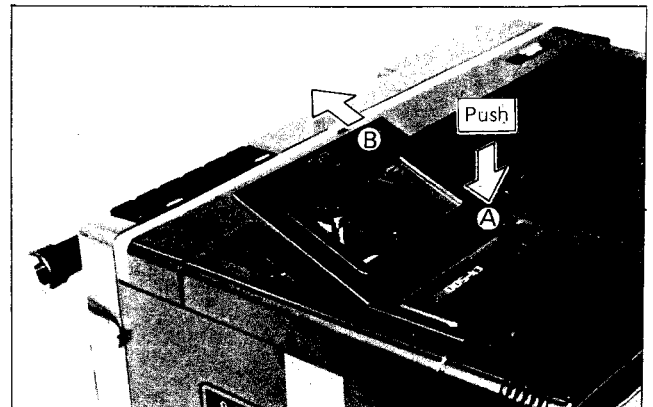

Fig. 12
Pull out Section (B), while depressing hard Section (A) with a finger. (See Fig. 12).